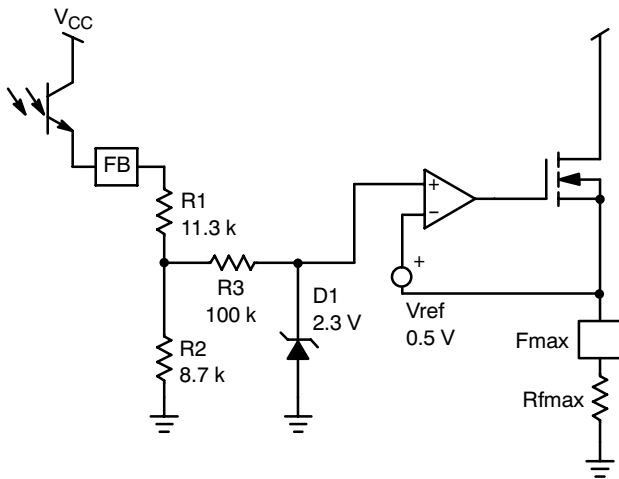

Figure 32. The OPAMP Arrangement Limits the VCO Modulation Signal between 0.5 and 2.3 V
wiring a resistor from pin 2 to GND will set the maximum frequency excursion. To improve the circuit protection features, we have purposely created a dead zone, where the feedback loop has no action. This is typically below 1.2 V. Figure 32 details the arrangement where the internal voltage (that drives the VCO) varies between 0 and 2.3 V. However, to create this swing, the feedback pin (to which the optocoupler emitter connects), will need to swing typically between 1.2 V and 5.3 V.
As shown on Figure 32, the internal dynamics of the VCO control voltage will be constrained between 0.5 V and 2.3 V, whereas the feedback loop will drive pin 6 (FB) between 1.2 V and 5.3 V. If we take the default FB pin excursion numbers, 1.2 V = 50 kHz, 5.3 V = 500 kHz, then the VCO maximum slope will be: